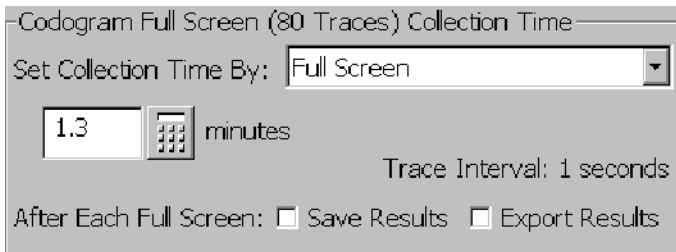

Figure 3-61: Codogram Full Screen (80 Traces) Collection Time area
2. Tap the **Meter** tab. Figure 3-61 shows the Codogram Full Screen (80 Traces) Collection Time area.